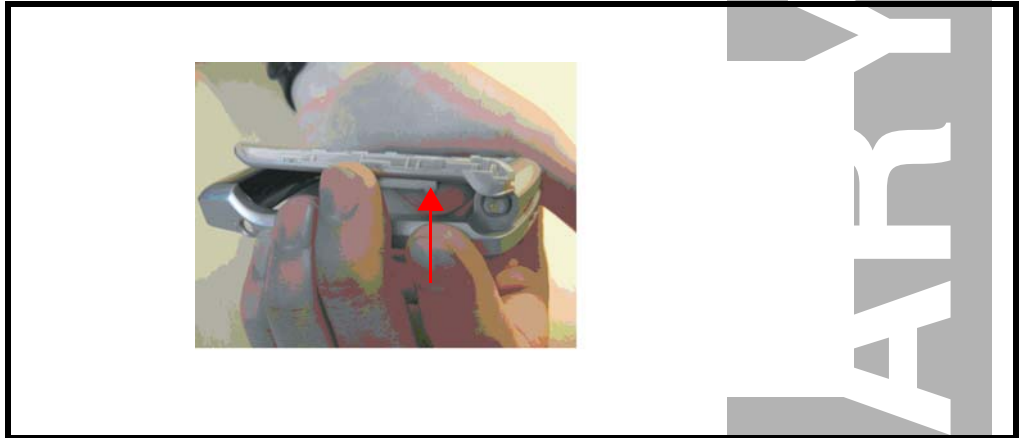

Figure 42. Separating Case-B and Case-C
3. Separate Case-B and Case-C as shown in Figure 42.